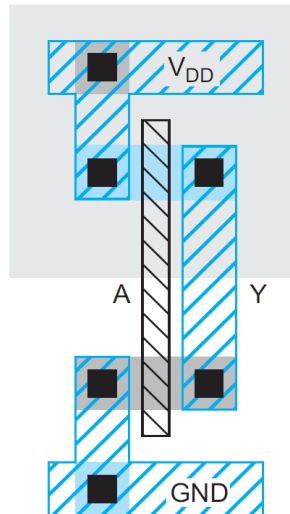

Fig. 1; Draw set of 6 layout masks
10. In 6 separate figures, draw the set of 6 layout layer masks (n-well, polysilicon, n+ diffusion, p+ diffusion, contact, metal) for the following CMOS inverter layout:(Fig1)